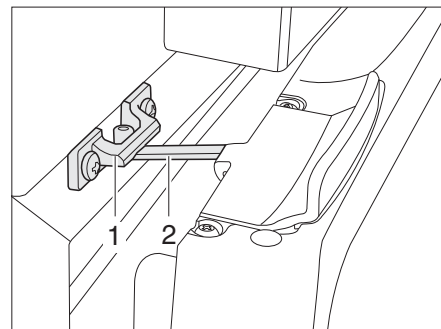

Fig. 278 Refrigerator door in ventilation position (Thetford)
- Open the lock (Fig. 278,2) and snap it into the locking catch (Fig. 278,1). The refrigerator door will then stay slightly open.